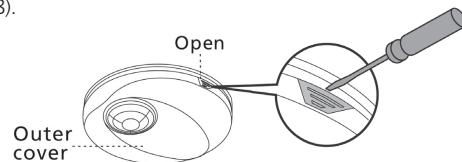

Fig. 6
3.3.1 Insert large flat blade screwdriver into the groove as shown each side in turn and twist (see Fig. 6) to remove outer cover.